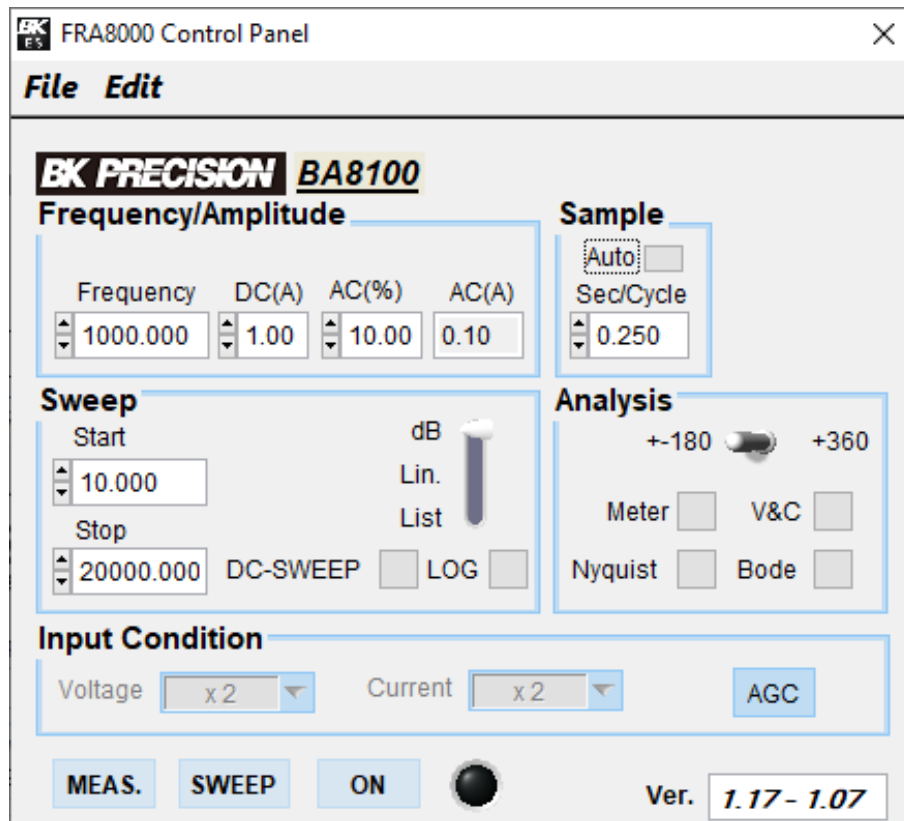

Figure 6.1 Control Panel
- The BA8100 Control Panel will launch as shown in **Figure 6.1**